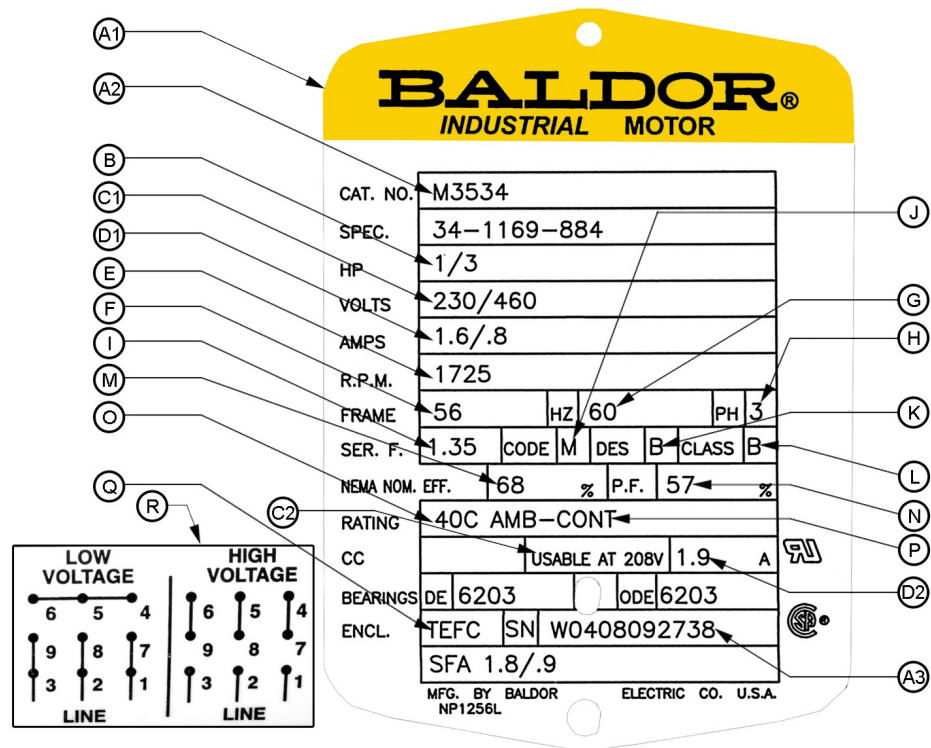

Figure 2-2. Three-phase motor nameplate.
A nameplate displays useful information about the motor. The nameplate portrayed in Figure 2-2 is for a standard, three-phase, nine-lead motor.
S. **Motor type:** (not shown in Figure 2-2) Manufacturers classify motors by their electrical and mechanical characteristics (squirrel-cage, induction, split-phase, permanent magnet, etc.).